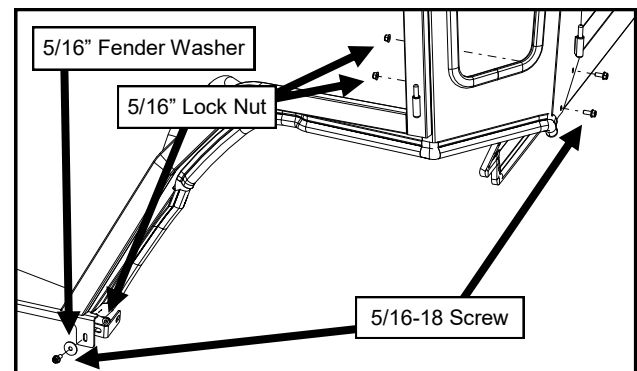

Fig. 7.5 (Rear Side Frame Fasteners)
- 7.5 Secure the rear portion of the side frame assembly finger tight only. **Side frame can be shifted forward or back to help sealing at fender.** See Figure 7.5.